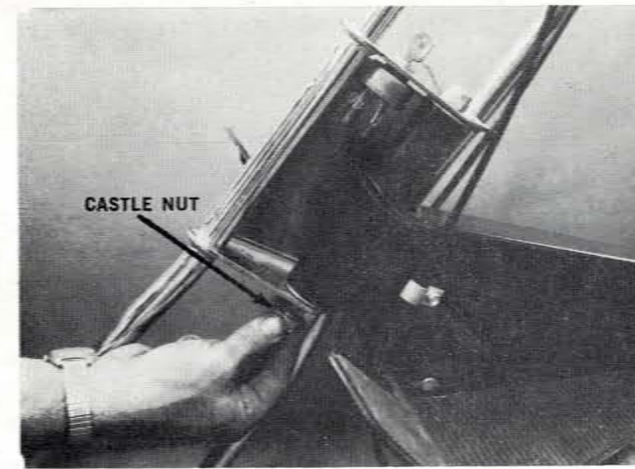

Figure 5
1. Place fork assembly in position and secure with castle nut and cotter pin (see Figures 5 and 6).